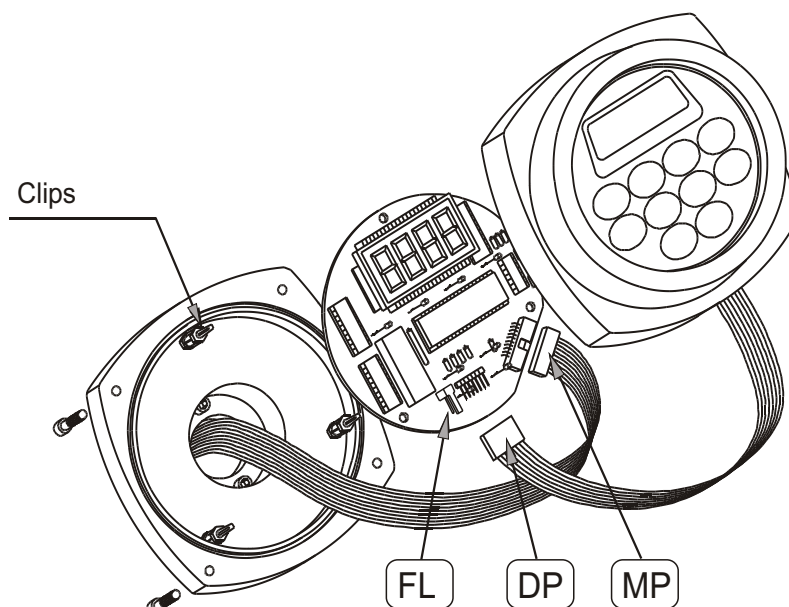

Fig. 8
**Computer print board - (see fig. 8 below)**